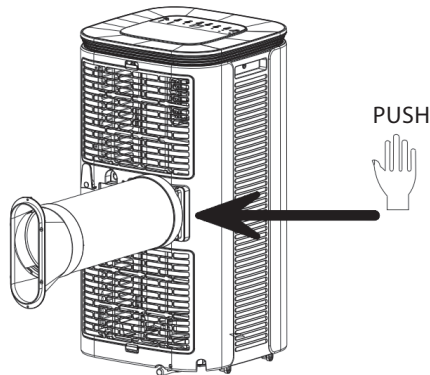

Fig. 1
1.1 Install the heat pipe assembly (as shown in Fig.1)
- Insert the heat pipe assembly (the end of the exhaust joint) into the back panel vent slot (push to the left) and complete the assembly (as shown in figure 1).